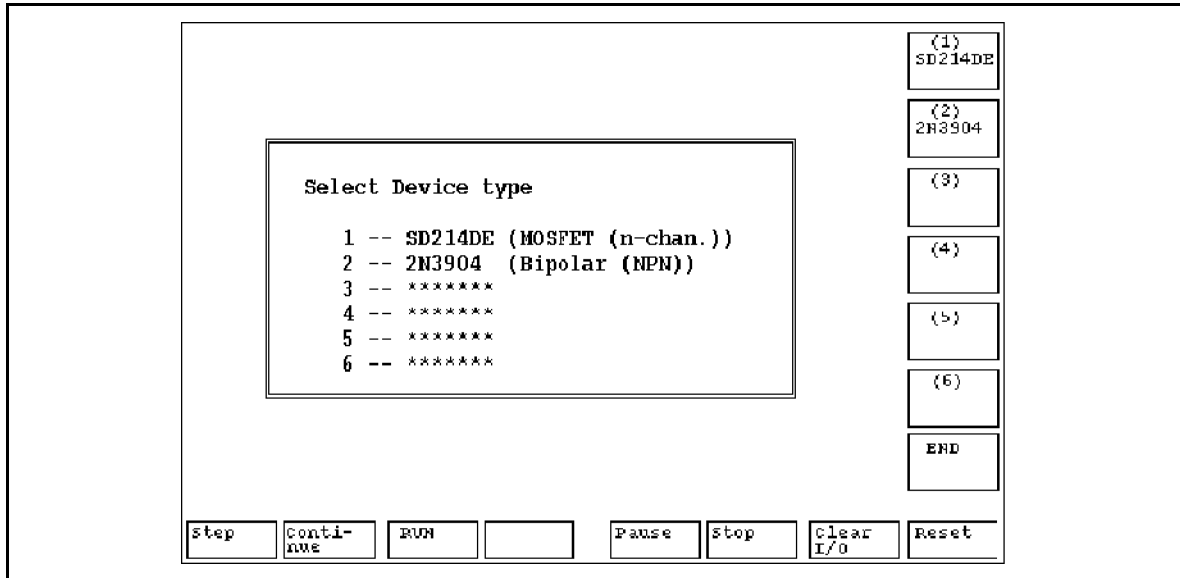

Figure 3-3. Device Selection Menu
5. Program prompts you to select the device type from the selection menu as shown in Figure 3-3.